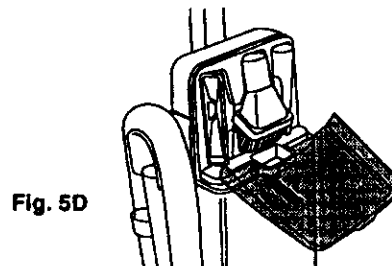

Fig. 5D
1. Unsnap hinges at base of door (where applicable to remove (Fig. 5D)).